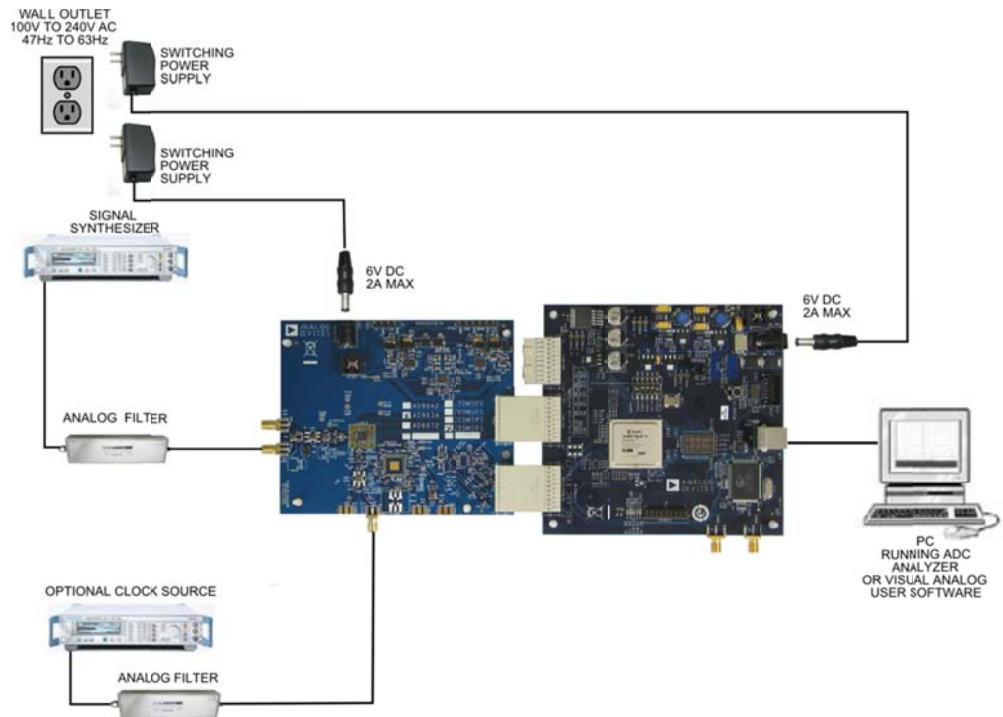

Figure 1: AD9642 Evaluation Board with HSC-ADC_EVALCZ Data Capture Board
1. Connect the AD9642 evaluation board and the HSC-ADC-EVALCZ board together as shown in Figure 1.
9. Next open the SPI Controller software. If prompted for a configuration file, select the configuration file titled AD9642_14Bit_250MSpiR03.cfg. If not, check the title bar of the window to see which configuration is loaded. If necessary, choose "Cfg Open" from the "File" menu and select one of the configuration files named above. Note that the CHIP ID(1) field may be filled whether the correct SPI Controller configuration file is loaded or not.
11. Set the DCO Clk Delay Enable checkbox in the FLEXOUTPUT DELAY(17) panel on the ADCBase0 tab as shown below. In addition, set the DCO Clk Delay register to the '600ps additional delay on DCO pin'. Also, if using parts that are branded "XCPZ" with a date code other than 1126 set the O/P Port DCO Clk Invert checkbox in the OUTPUT PHASE (16) panel. Otherwise do NOT set the O/P Port DCO Clk Invert checkbox. These settings align the output timing with the input timing on the capture FPGA.